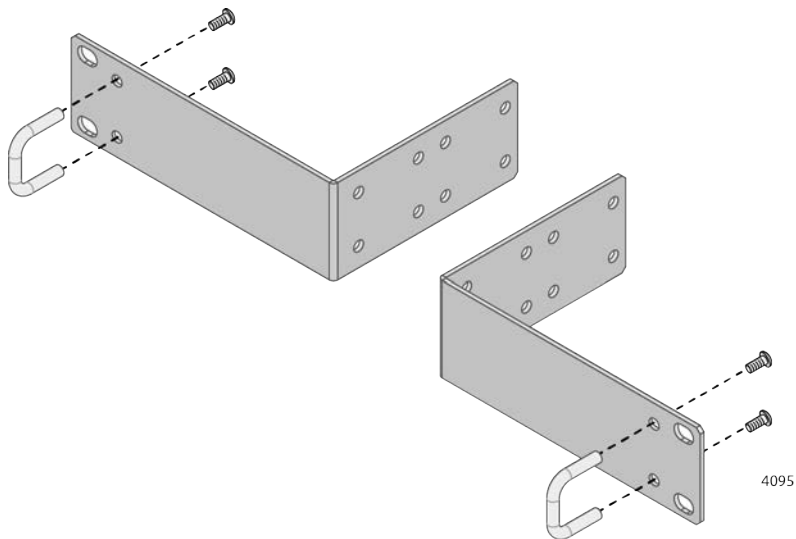

Figure 36. Attaching the Handles to the Brackets
3. Attach the handles to the brackets as shown in Figure 36.